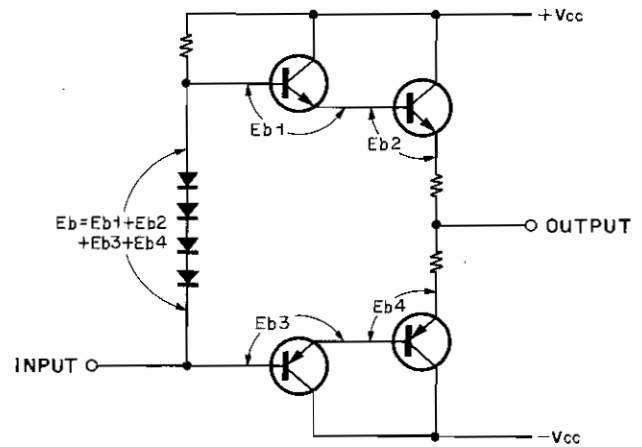
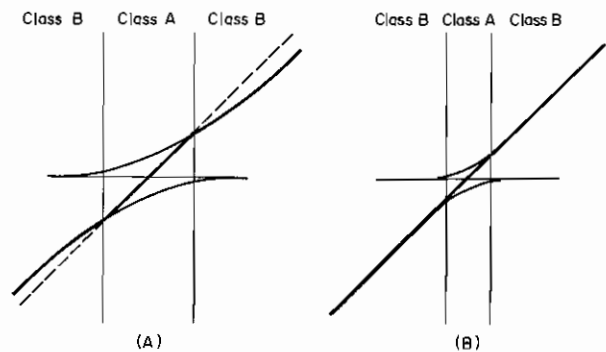
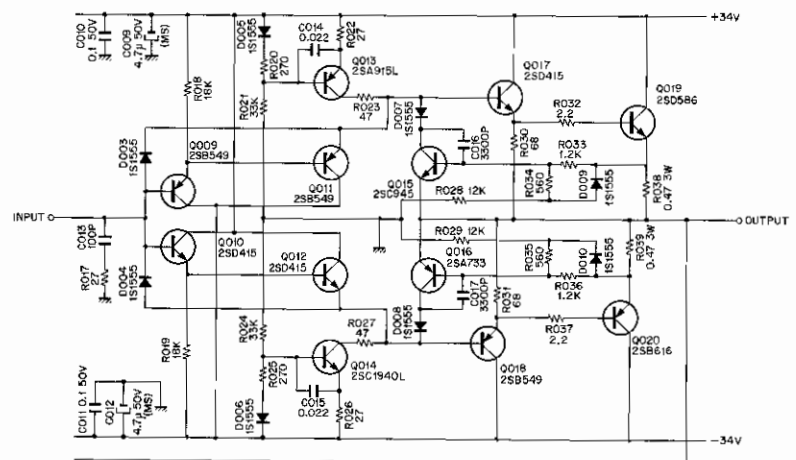
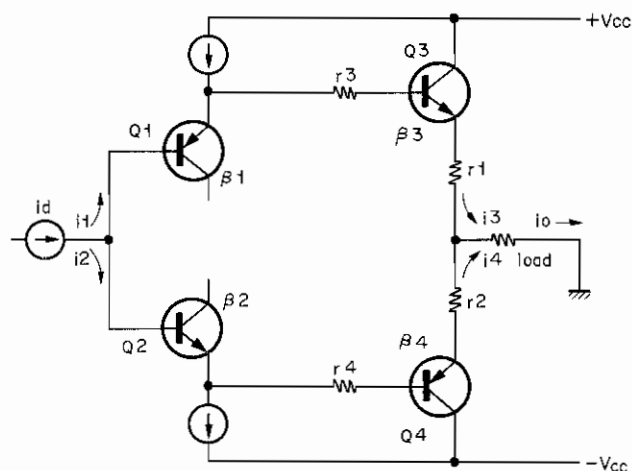

Fig. 2.4
Fig. 2.5
Fig. 2.3
Fig. 2.6
Especially for a class B push-pull amplifier, distortion cannot be reduced unless the positive and negative signal amplifiers are well balanced. The amplifier in the 420, however, is best balanced thanks to the vertically and horizontally symmetric configuration as shown in Fig. 2.3. This circuit allows distortion of only 0.1% at 1KHz 50 watts output even without NFB. This degree of distortion is low enough to make the amplifier used as a high-fidelity unit even if it is given no NFB.
Fig. 2.4 shows that a change in current flowing across the diode varies the terminal voltage and that E_b changes with signal current. These changes result in the generation of distortion. It is a matter of course that signal current flowing across the diode will produce distortion. See Fig. 2.3. Transistors Q009, Q011, Q010 and Q012 that generate bias voltage form an emitter-follower circuit of class A operation. Thus this circuit does not induce distorted signals.
For an ordinary class B amplifier, crossover distortion is reduced by increasing idling current thus overlapping the operating ranges of the positive and negative transistors. The overlap portion acts as a class A amplifier. Generally, the degree of amplification decreases where a change takes place from class A to B and no linear curve is obtained as shown in Fig. 2.5 (A). However, if the circuit shown in Fig. 2.3 is current-driven, a linear curve can be obtained at the point of change from class A to B as shown in Fig. 2.5 (B).
Fig. 2.6 illustrates a simplified version of the circuit shown in Fig. 2.3.
Since the direct-coupled two-stage emitter-followers can be regarded to be one emitter-follower having greater current amplification, the Q009–Q011, Q010–Q012, Q017–Q019, and Q018–Q020 will be designated respectively to be Q1, Q2, Q3 and Q4 as shown in Fig. 2.6.